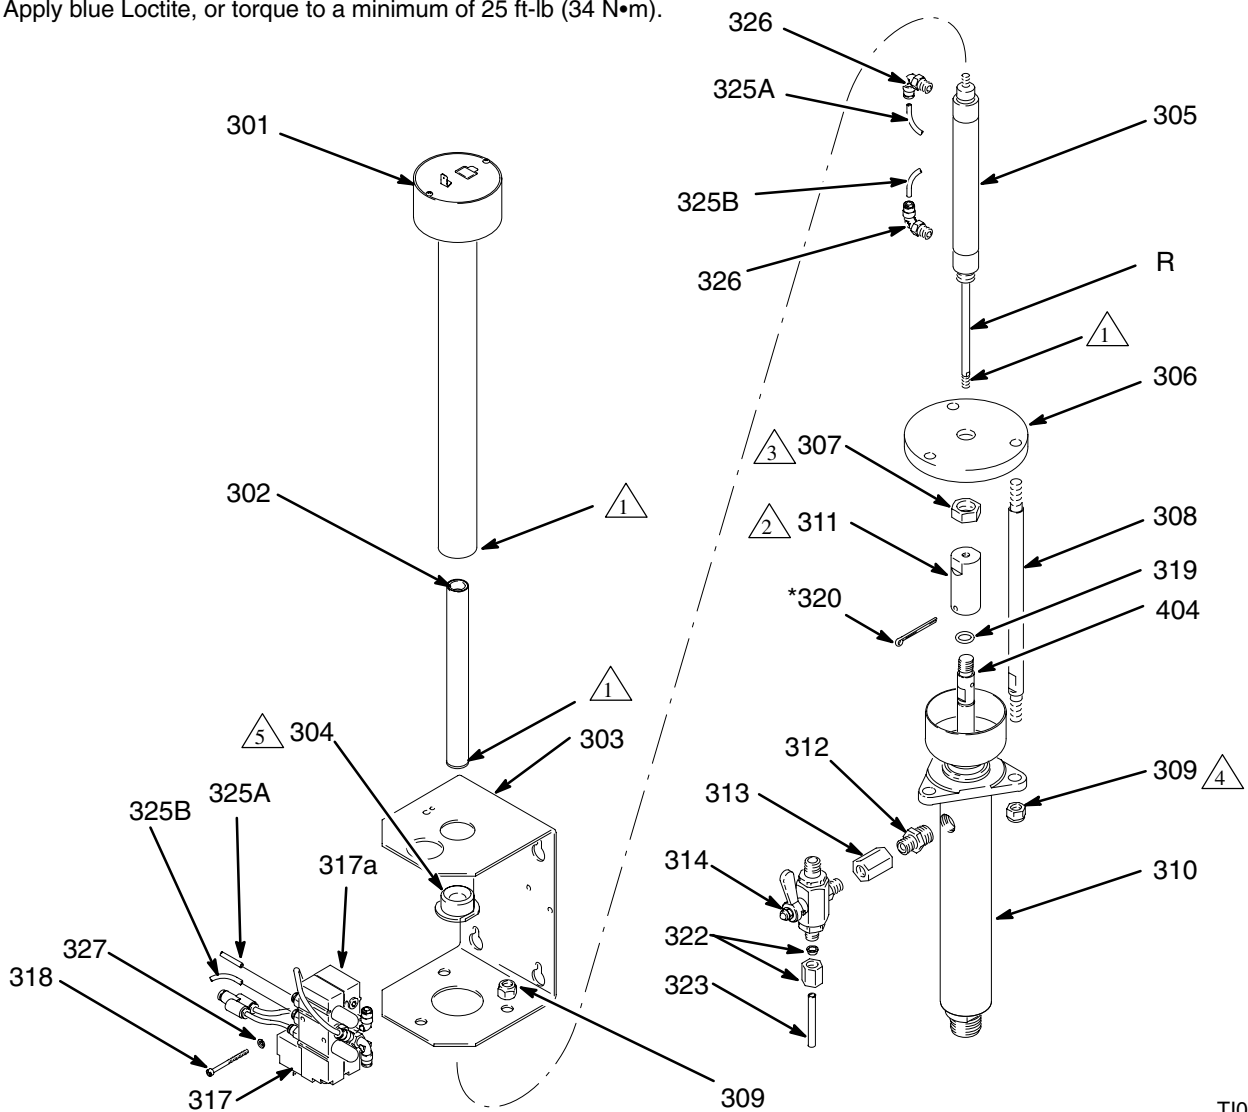

Fig. 10
4. See Fig. 10. Disconnect the wire connectors from the sensor (301) and from the air control (317).
6. Disconnect the air tubes (325A and 325B) from the air control (317). Label the lines so you do not reverse them when reassembling.
7. Loosen but do not remove the four nuts (123) holding the pump bracket (303) to the cabinet. Lift the pump bracket up and off the fasteners, and remove it from the cabinet.
8. Pull the sensor (301) straight off the assembly, to avoid damaging the sensor element.
9. Unscrew the magnet support (302) from the air cylinder (305).
10. Reassemble in the reverse order, following all reassembly notes in Fig. 10.
3. See Fig. 10. Unscrew the coupler (311) from the air cylinder rod (R).
4. Disconnect the air lines (325A and 325B) and remove the fittings (326) from the air cylinder (305). Label the lines so you do not reverse them when reassembling.
5. Unscrew the nut (307) from the air cylinder (305). Remove the three upper tie rod nuts (309) and take the displacement pump (310) and base plate (306) off the assembly.
6. Lower the air cylinder through the bracket (303) until the top of the cylinder is free, then pull it out the front of the bracket.
7. Remove the support (304) from the air cylinder (305).
3. See Fig. 10. Pull out the cotter pin (320) and unscrew the coupler (311) from the displacement rod (404).
4. Remove the three nuts (309) from the bottom of the tie rods (308) and pull off the displacement pump (310). Take the pump to a workbench.
7. See Fig. 10. Align the outlet of the displacement pump (310) with the front of the ValueMix and raise the pump onto the tie rods (308). Secure with the three locknuts (309).
8. Screw the coupler (311) onto the displacement rod (404). Install the cotter pin (320\*).